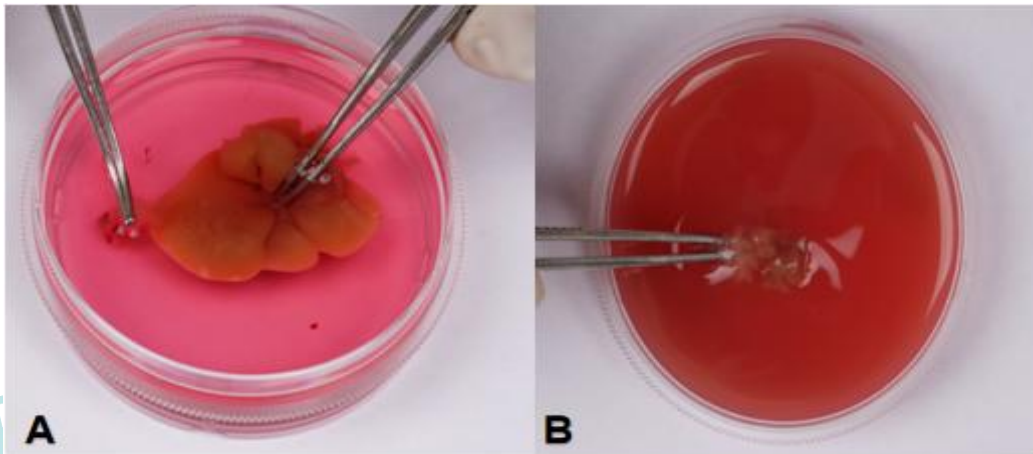

Figure 4. Treatment of the liver in vitro
- 4) Cut the vascular and connective tissue connected to the liver along the diaphragm. Gently lift the liver tissue with Curved Forceps 2, cut off the remaining connecting tissue. Transfer the intact liver tissue to a pre-prepared culture dish containing Specialized Washing Solution For Rat Hepatic Parenchymal Cells. Secure the liver tissue at the junction of the liver lobes using Curved Forceps 2 in a super clean bench. After removing the gallbladder with Curved Forceps 3, gently peel off the hepatic capsule. Hepatic parenchymal cells can be seen flowing out like quicksand, when the tissue is gently shaken. The incomplete dispersed parts can be gently separated with forceps and dispersed into the cell washing solution (Figure 4).